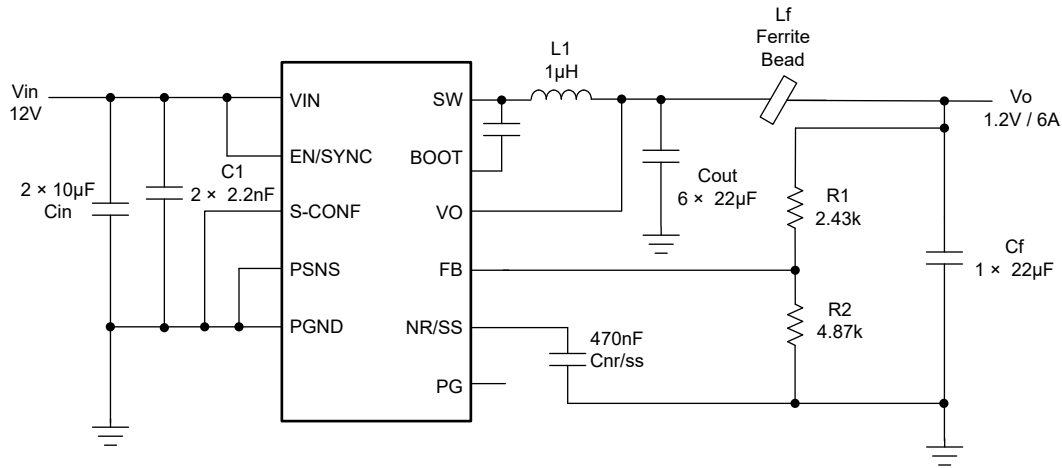

Figure 3-2. Typical Schematic
- The device is operating in one of the typical application configurations show in Figure 3-2.